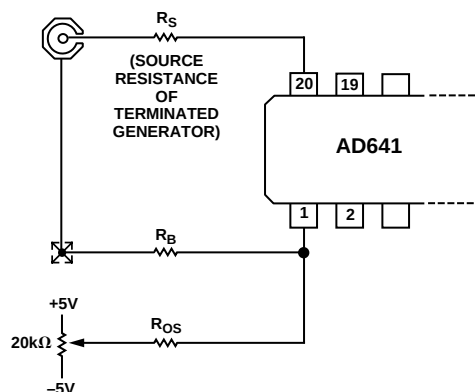

Figure 25. Optional Input Offset Voltage Nulling Circuit; See Text for Component Values
In most applications there will be no need to use any offset adjustment. However, a general offset trimming circuit is shown in Figure 25.  $R_S$  is the source resistance of the signal. *Note: 50  $\Omega$  rf sources may include a blocking capacitor and have no dc path to ground, or may be transformer coupled and have a near zero resistance to ground.* Determine whether the source resistance is zero, 25  $\Omega$  or 50  $\Omega$  (with the generator terminated in 50  $\Omega$ ) to find the correct value of bias compensating resistor,  $R_B$ , which should optimally be equal to  $R_S$ , unless  $R_S = 0$ , in which case use  $R_B = 5\text{ }\Omega$ . The value of  $R_{OS}$  should be set to 20,000  $R_B$  to provide a  $\pm 250\text{ }\mu\text{V}$  trim range. To null the offset, set the source voltage to zero and use a DVM to observe the logarithmic output voltage. Recall that the LOG OUT current of the AD641 exhibits an *absolute value response* to the input voltage, so the offset potentiometer is adjusted to the point where the logarithmic output "turns around" (reaches a local maximum or minimum).
R4 is identical to R2, and in shunt with R3 (270  $\Omega$  thin film) forms a 27  $\Omega$  resistor with the same TC as the output resistance of the attenuator. By connecting Pin 1 to ATN LOW (Pin 2) this resistance minimizes the offset caused by bias currents. The offset nulling scheme shown in Figure 25 may still be used, with the external resistor  $R_B$  omitted and  $R_{OS} = 500 \text{ k}\Omega$ . Offset stability is improved because the compensating voltage introduced at Pin 20 is now PTAT. Drifts of under  $1 \mu\text{V}/^\circ\text{C}$  (referred to Pins 1 and 20) can be maintained using the attenuator.
Cascaded AD641s can be used in dc applications, but input offset voltage will limit the dynamic range. The dc intercept is 6  $\mu$ V. *The offset should not be confused with the intercept*, which is found by *extrapolating* the transfer function from its central “log linear” region. This can be understood by referring to Equation (1) and noting that an input offset is simply additive to the value of  $V_{IN}$  in the numerator of the logarithmic argument; it does not affect the denominator (or intercept)  $V_X$ . In dc coupled applications of wide dynamic range, special precautions must be taken to null the input offset and minimize drift due to input bias offset. It is recommended that the input attenuator be used, providing a practical input range of  $-74$  dBV ( $\pm 200$   $\mu$ V dc) to  $+6$  dBV ( $\pm 2$  V dc) when nulled using the adjustment circuit shown in Figure 25.